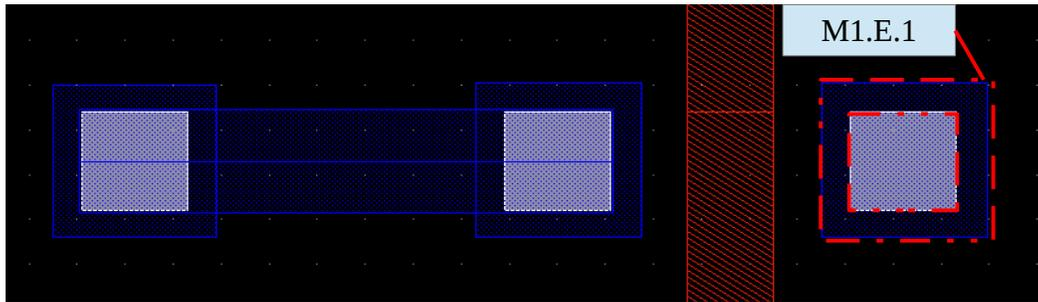

Fig. 7: Metal contacts. Blue colour rectangle represents metal 1.
21. Select the “**Metal 1 dwg**” layer; create a smallest possible metal 1 square and place it on top of contact as shown on Figure 7. Then, make a connection between metal contacts with the path function (hot key 'p') or rectangle function (hot key 'r').